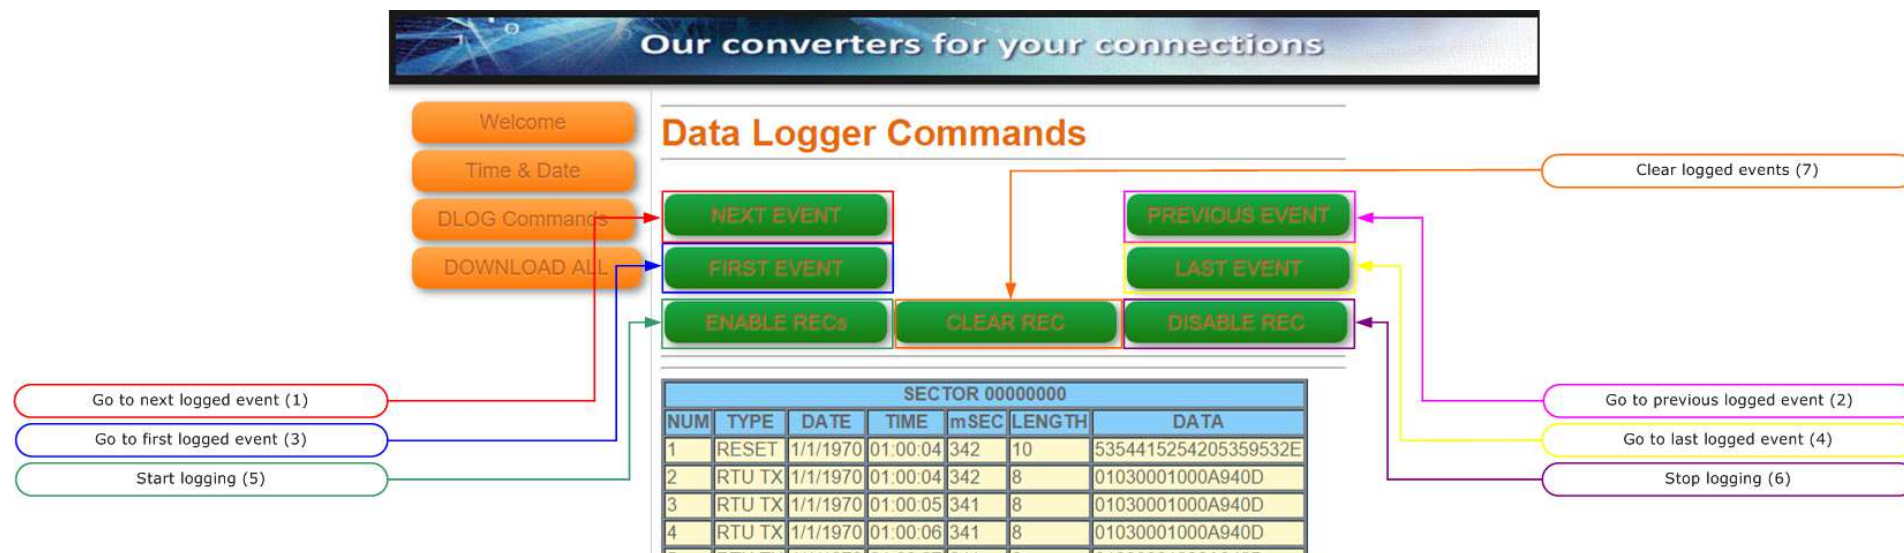

Figure 15: "Data Logger Commands" window
When the "DLOG Commands" button is pressed, the "**Data Logger Commands**" window appears (Fig. 15). It has the following structure:
- "**NEXT EVENT**" button (Fig. 15, Point 1): it is possible to go to the next logged event;
- "**PREVIOUS EVENT**" button (Fig. 15, Point 2): it is possible to go to the previous logged event;
- "**FIRST EVENT**" (Fig. 15, Point 3): it is possible to go to the first logged event;
- "**LAST EVENT**" (Fig. 15, Point 4): it is possible to go to the last logged event;
- "**ENABLE REC**" (Fig. 15, Point 5): it is possible to start the logging;
- "**DISABLE REC**" (Fig. 15, Point 6): it is possible to stop the logging;
- "**CLEAR REC**" (Fig. 15, Point 7): it is possible to clear the logged events.